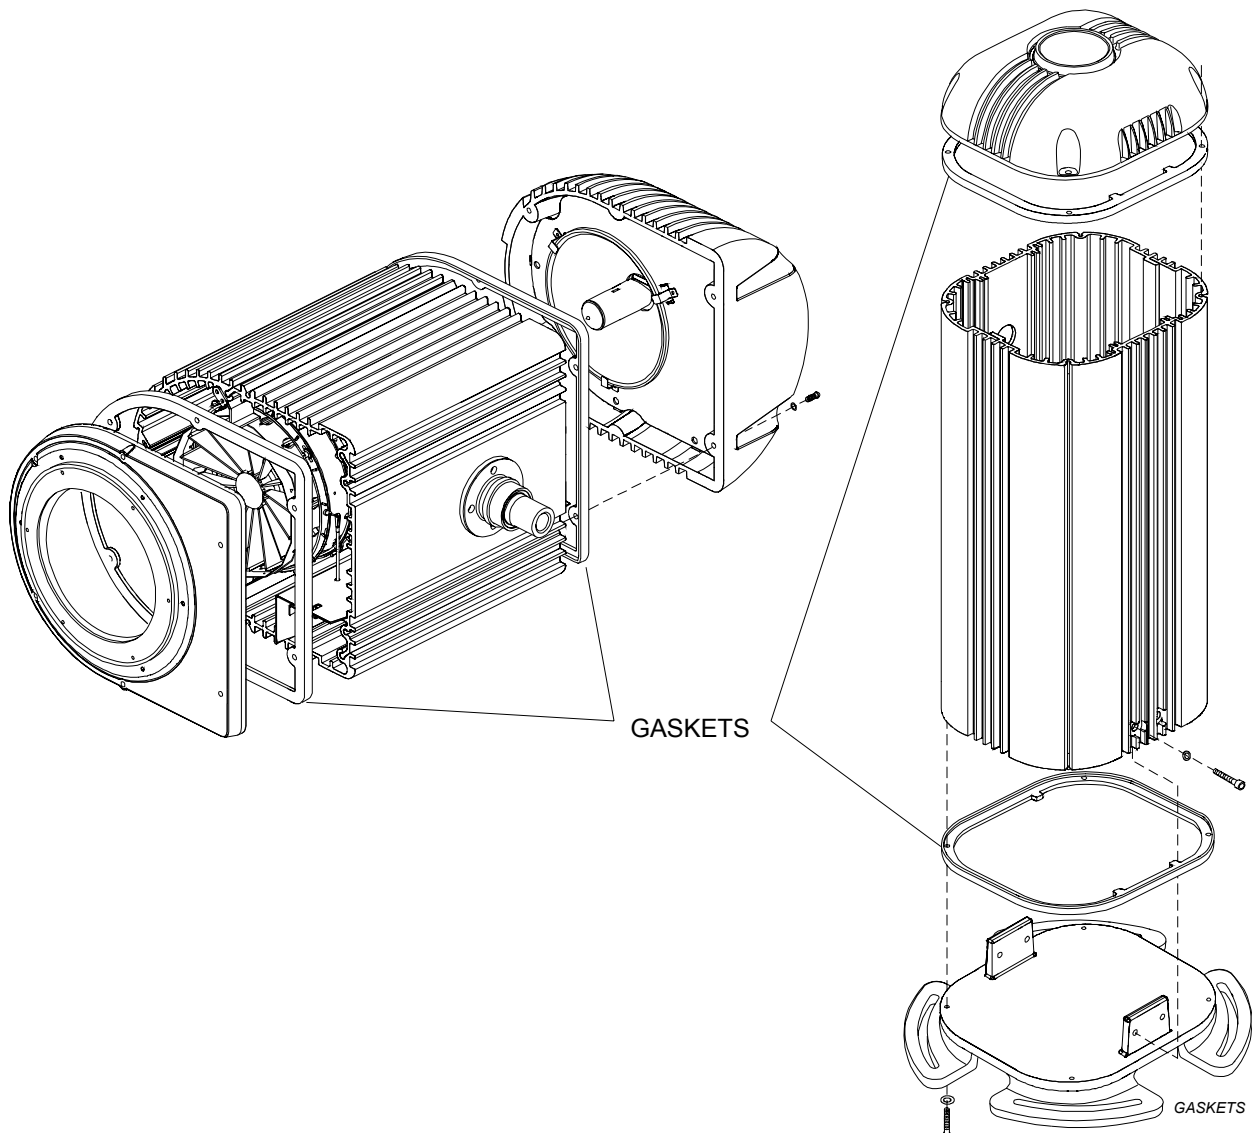

Figure 6.9 - Gasket Replacement.
1. Remove old gasket (Figure 6.9).